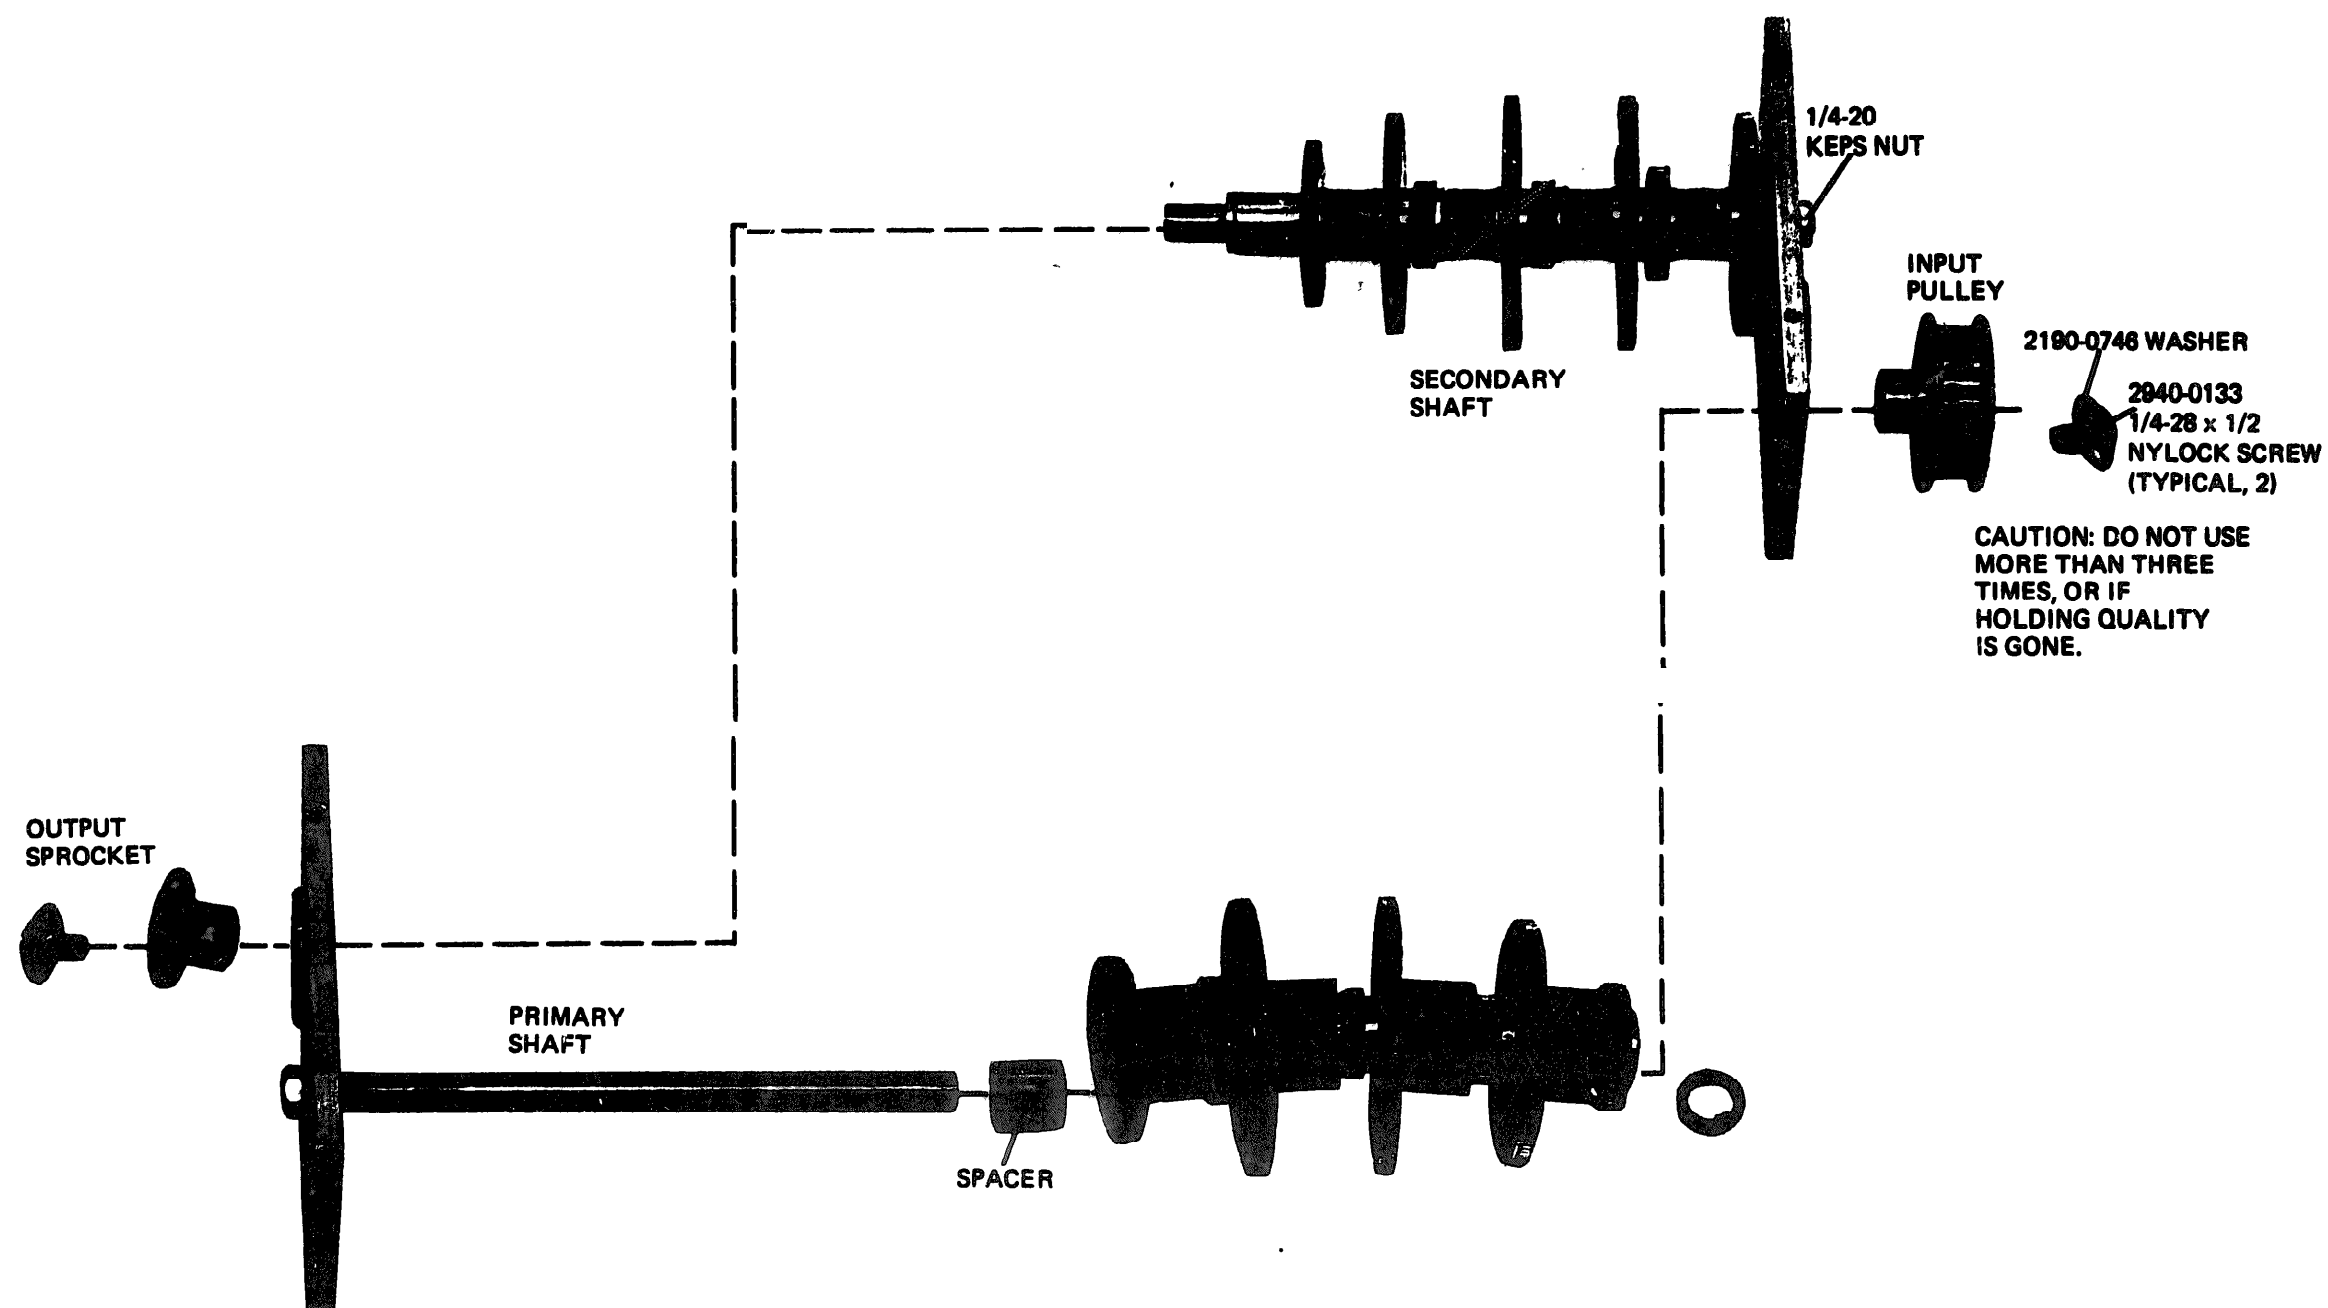

Figure 5-17. Gearbox Disassembly
5-55. GEARBOX DISASSEMBLY AND LUBRICATION OVERHAUL). Use the following procedure to disassemble the gearbox, and to inspect for clutch wear. The procedure is illustrated in Figure 5-17. Note that each gear has, in addition to one or two toothed discs, one or two hub sections that fit inside the clutch springs. The hub sections of adjacent gears meet inside the spring, and must fit very closely or else the spring will wind down between the hubs, disabling the gearbox. The shaft end play adjustment, which follows this overhaul procedure, is essential. End play must be adjusted before running the gearbox, to prevent damage.
- d. While holding one end plate in each hand, pull out the primary shaft from the gears (Figure 5-17). Lift the entire primary gear tram out as one unit. Note the orientation and position of each component.
c. When all gears are reassembled onto shaft, slip shaft out as shown in Figure 5-17, leaving gear tram as one unit. Gil shaft lightly with No 10 oil (Table 5-2), and remove excess oil. Note that shaft does not rotate. Steel washer on shaft end must be properly positioned.
f. When all gears are reassembled onto shaft, slip shaft out, leaving gear train as one unit (Figure 5-17). Oil shaft lightly (do not use grease).
i. Replace rounded bottom cover (four screws, Figure 5-17); leave screws loose and install mounting plate. Then tighten them.